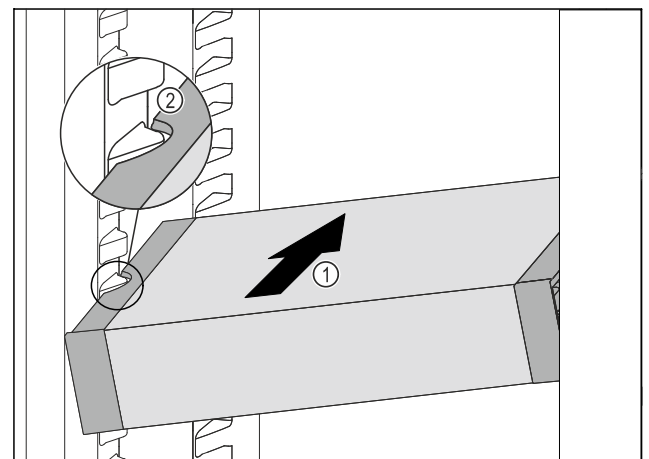

Fig. 194
- ▶ Insert the VarioSafe into the fridge section at an angle Fig. 194 (1) until the recesses in the side Fig. 194 (2) of the VarioSafe are at the level of the support rib in the fridge section.